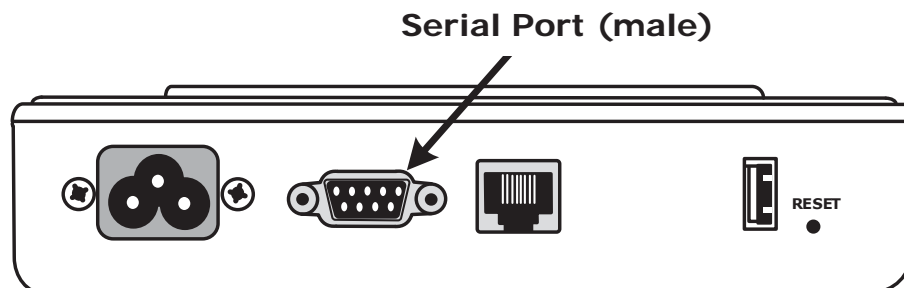

Figure 1, MagWeb GT Serial Port
1. Locate the *Serial port* on the MagWeb GT module (Figure 1).